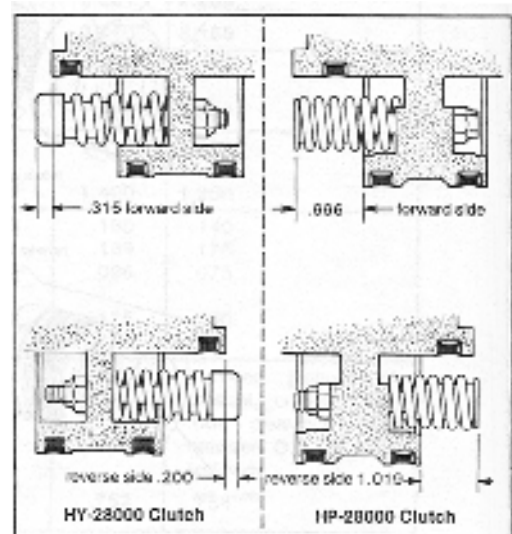

Fig. 25. Return Spring Height Adjustment
A. Insert return spring retainers into return springs and secure in gear carrier using cap screws alternating from forward to reverse side of bevel gear carrier. Tighten cap screws until top of spring retainer protrudes the specified distance from face of bevel gear carrier hub. (see fig.25)